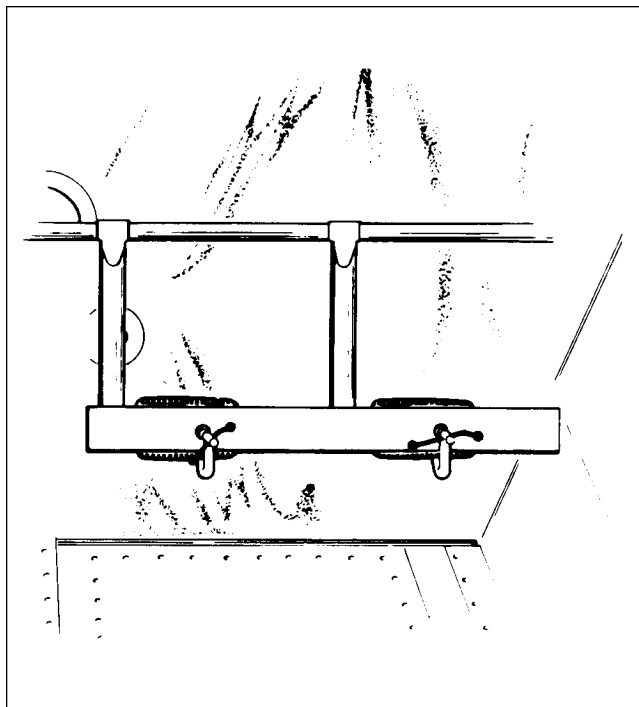

Figure 5-12. Clamping Rudder Pedals
3. Clamp the rudder pedals to align in a lateral position as shown in Figure 5-12.